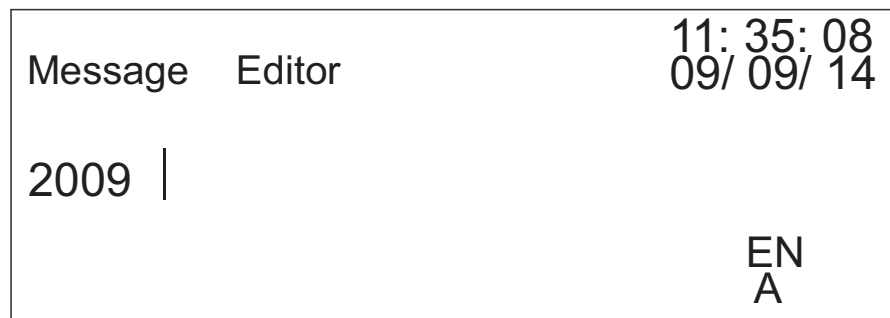

Figure 4-23: Message Editor - Space
- 2 Press  to input a space, as shown in the Figure 4-23.